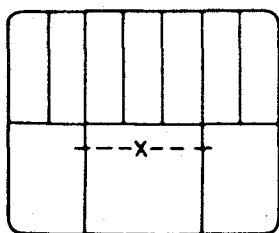

Fig. 4-15
- 3) Press one of the TRACKING buttons on the remote control until the "x" mark can be seen in the center position of the tracking range on the TV screen as shown in Fig. 4-15.